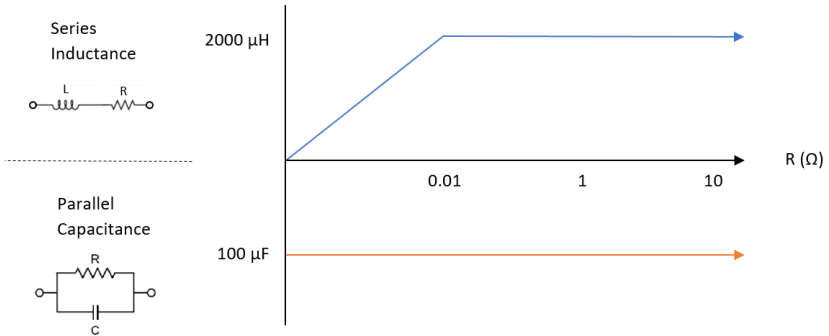

Figure 1
- Performance Characteristics Table 1, Figure 1 1-1
Reactive loads not to exceed 2mH or $100\mu\text{F}$ with a minimum of $5\mu\Omega$ per μH of series resistance. See figure 1 below.
Front Panel Controls and Displays (See figure 1)